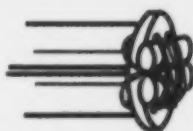

Figure 17 - Attachment of Tubing
35. With fine wire attach two pieces of clear plastic tubing, each 1' long, to the plunger handle. See Figure 17. **Instructor's Initials**